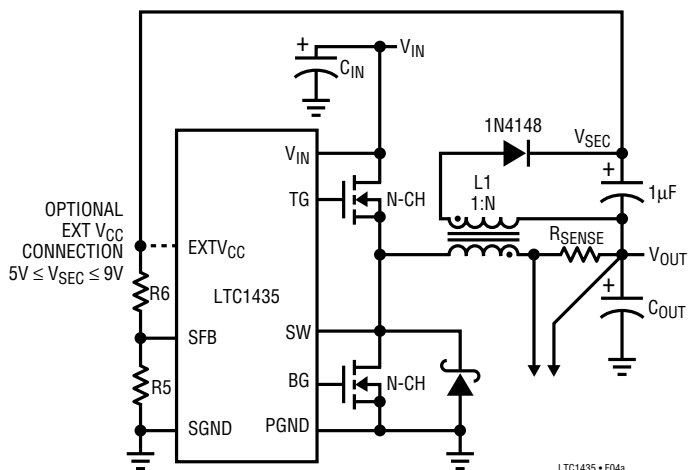

Figure 4a. Secondary Output Loop and EXTVCC Connection
3. EXTVCC connected to an output-derived boost network. For 3.3V and other low voltage regulators, efficiency gains can still be realized by connecting EXTVCC to an output-derived voltage which has been boosted to greater than 4.8V. This can be done with either the inductive boost winding as shown in Figure 4a or the capacitive charge pump shown in Figure 4b. The charge pump has the advantage of simple magnetics.
The secondary output voltage is set by the turns ratio of the transformer in conjunction with a pair of external resistors returned to the SFB pin as shown in Figure 4a. The secondary regulated voltage,  $V_{SEC}$ , in Figure 4a is given by: